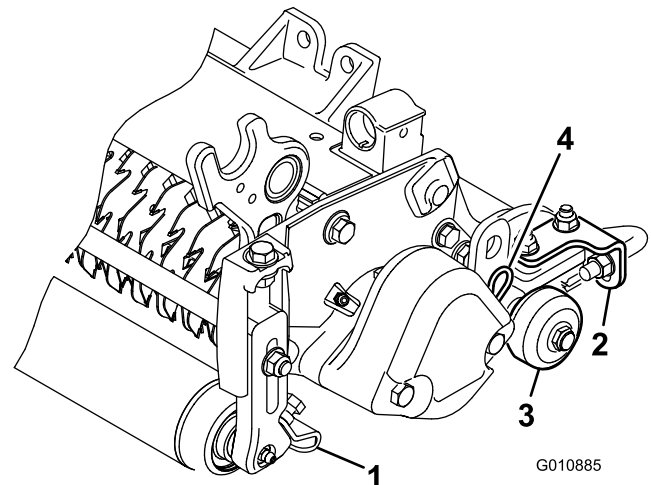

Figure 6
1. Loosen the flange nuts that secure the roller scrapers (Figure 6).
Before you lower the verticutters to the shop floor or remove them from the traction unit, lower the transport rollers (Figure 6) to protect the blades from hard surface contact.